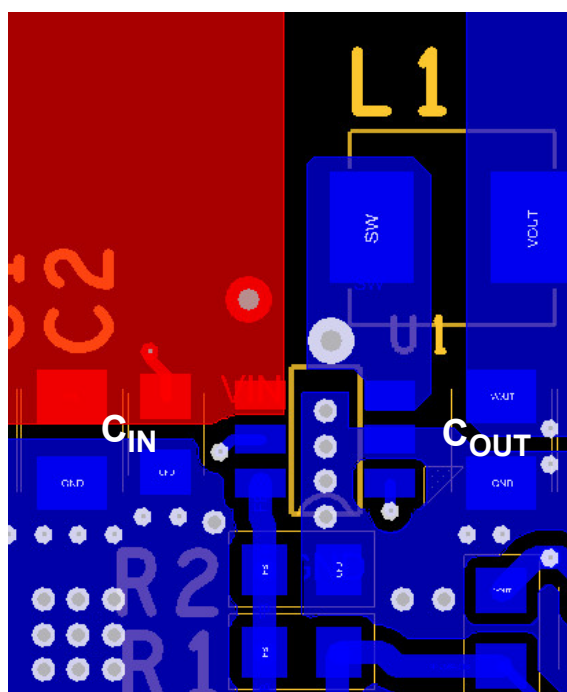

Figure 37. Printed Circuit Board Example Component Placement
Proper layout of the power converter minimizes EMI and noise and ensures first pass success of the design. PCB layouts are provided in multiple formats on the Renesas website. In addition, Figure 37 makes clear the important points in the PCB layout. In reality, the PCB layout of the RAA808013 is quite simple.
- A multi-layer printed circuit board with a GND plane is recommended. Figure 37 shows the connections of the critical components in the converter. *Note:* Capacitors C_{IN} and C_{OUT} could each represent multiple physical capacitors. The most critical connections are to tie the PGND pin to the package GND pad. This connection of the GND pad to the system plane ensures a low-impedance path for all return current, and an excellent thermal path to dissipate heat. With this connection made, place the high frequency MLCC input capacitor near the VIN pin and use vias directly at the capacitor pad to tie the capacitor to the system GND plane.
A component placement example is shown in Figure 37.